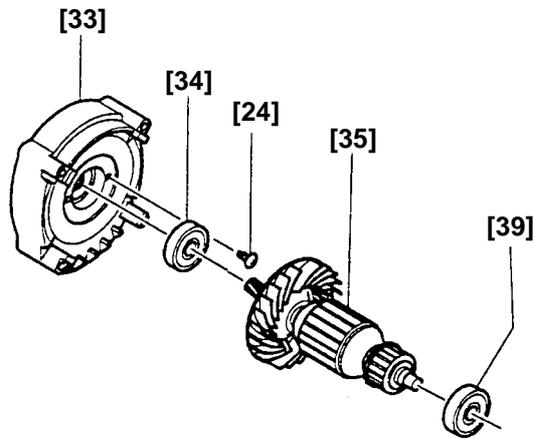

Fig. 7
(5) Removal of Inner Cover (B) [33] and Armature [35] (Fig. 7)
The Armature [35] may come off the Ball Bearing 6001VVCMP2L [34] when removing the Armature [35] from the Housing (Green) [40]. To prevent it, press-fit the Armature [35] to the Ball Bearing 6001VVCMP2L [34] before reinstalling the Armature [35] to the Housing (Green) [40] (Fig. 7).